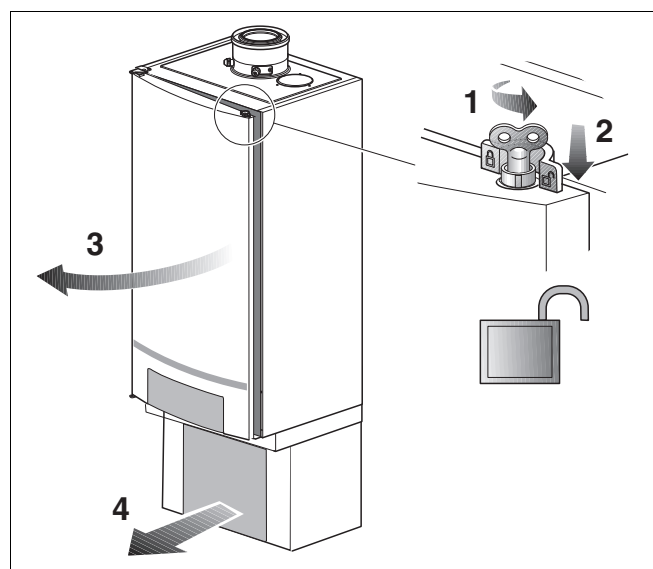

fig. 18 Opening the boiler door
- Turn the vent key through a quarter rotation to undo the boiler door lock (fig.18, **item 1**).
- Push the fastener down (fig. 18, **item 2**) and open the boiler door (fig. 18, **item 3**).
- Remove the cover shield of the pump group (fig. 18, **item 4**).